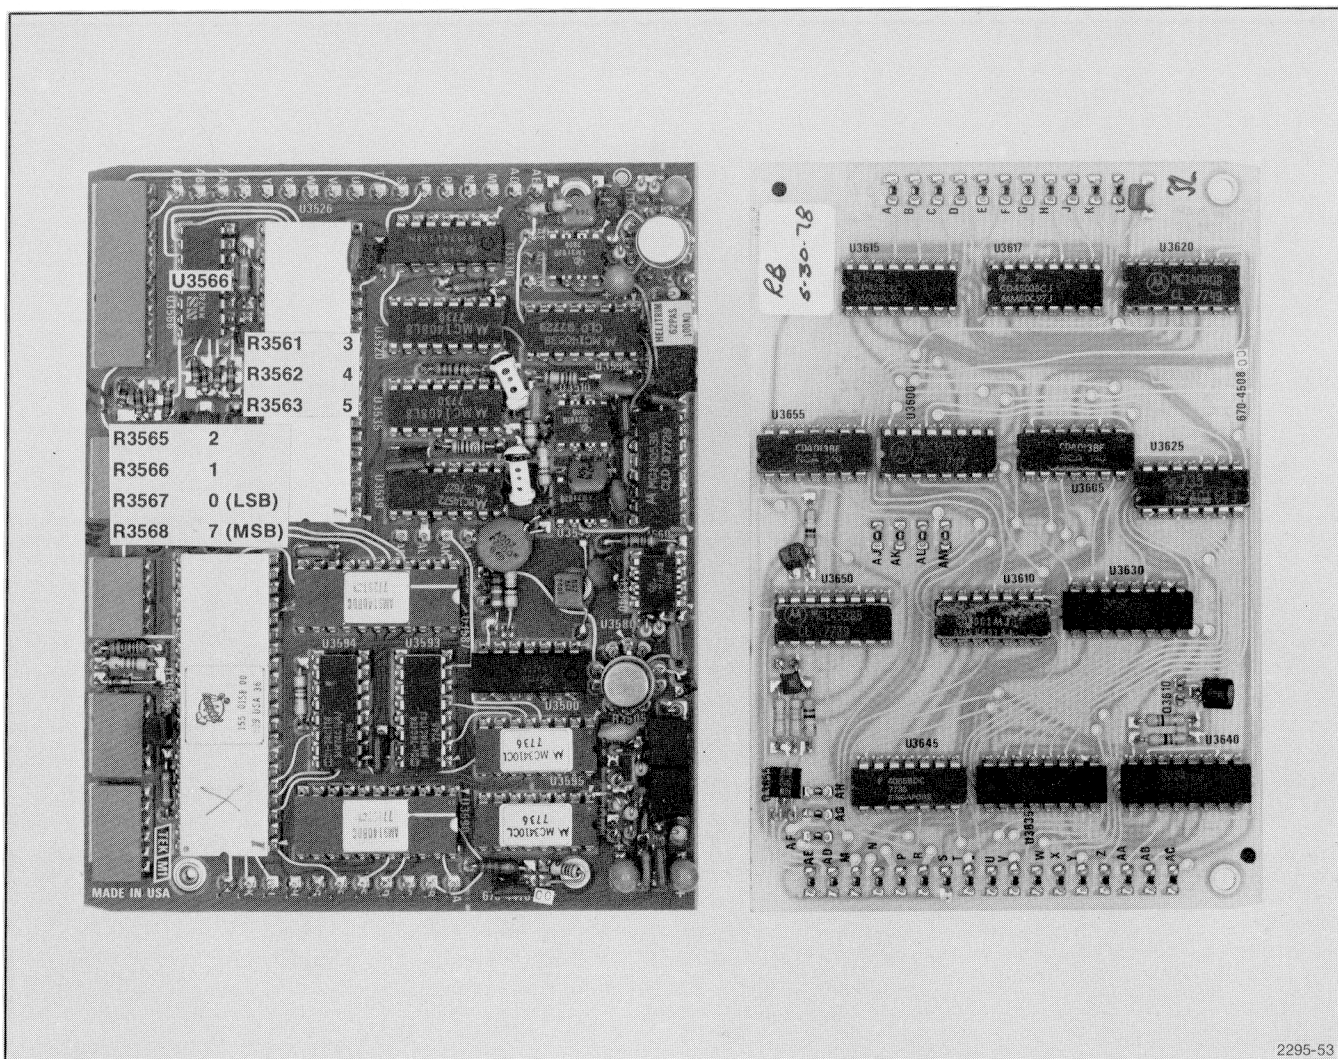
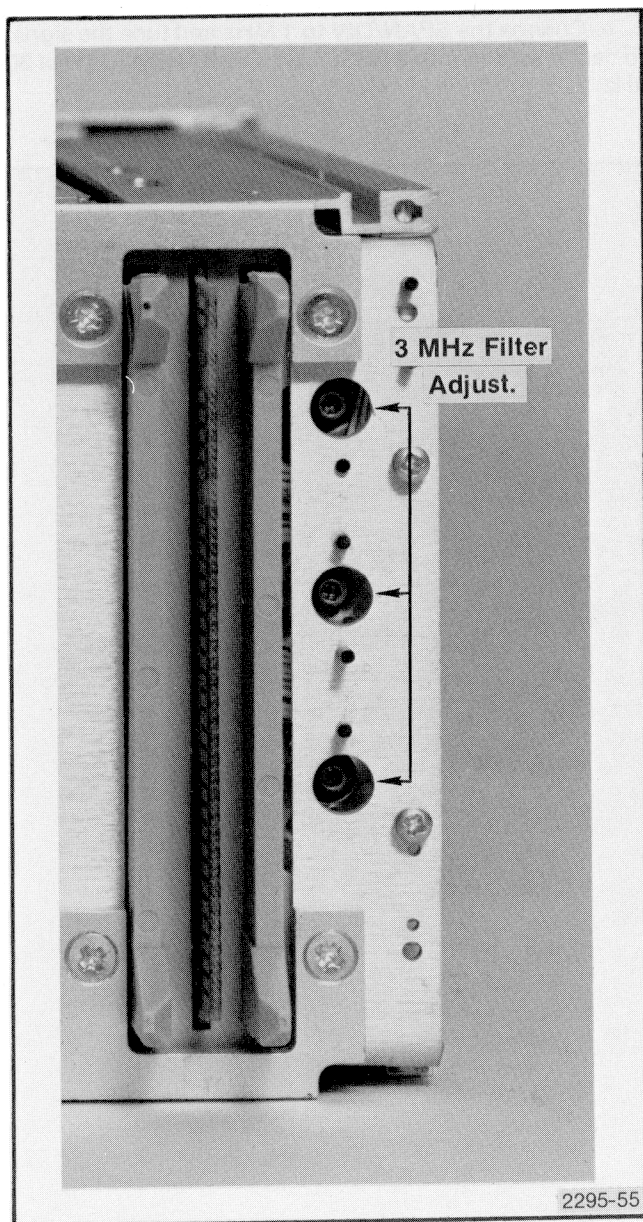

Fig. 4-45. Location of B—SAVE A Reference Level Positioning Resistor Matrix.
Fig. 4-47. Location of 3 MHz, Three-Section Filter Adjustments.
d. Connect or disconnect resistors R3561 through R3568 (see Fig. 4-45) to acquire the desired "K" factor or reference level.
f. Change the RESOLUTION BANDWIDTH to 3 MHz, then adjust the three cavity filter (see Fig. 4-47) with a 7/64" Allen drive wrench, and the 3 MHz Noise Filter with C3454 (see Fig. 4-45) for the best amplitude, symmetry, and shape around the 30 kHz reference center frequency.